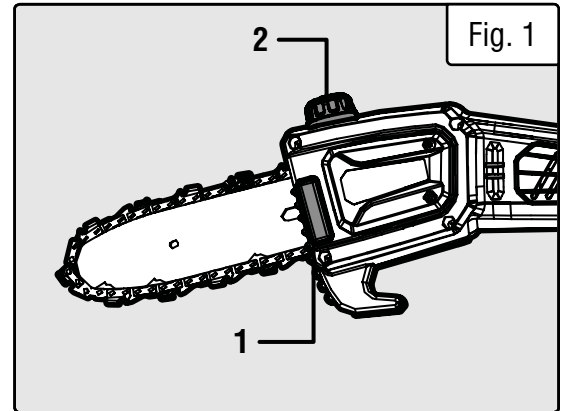

Fig. 1
This pole saw features an auto-oiling system to keep the chain and guide bar properly lubricated. The oil level window (Fig. 1 - 1) shows the remaining oil in the pole saw. If the oil level decreases to below one quarter capacity, refill it with the proper bar and chain oil.
1. Place the saw on a level surface. Clean the area around the oil tank cap (Fig. 1 - 2) to avoid getting dirt into the oil tank. Once clean, remove the oil tank cap.